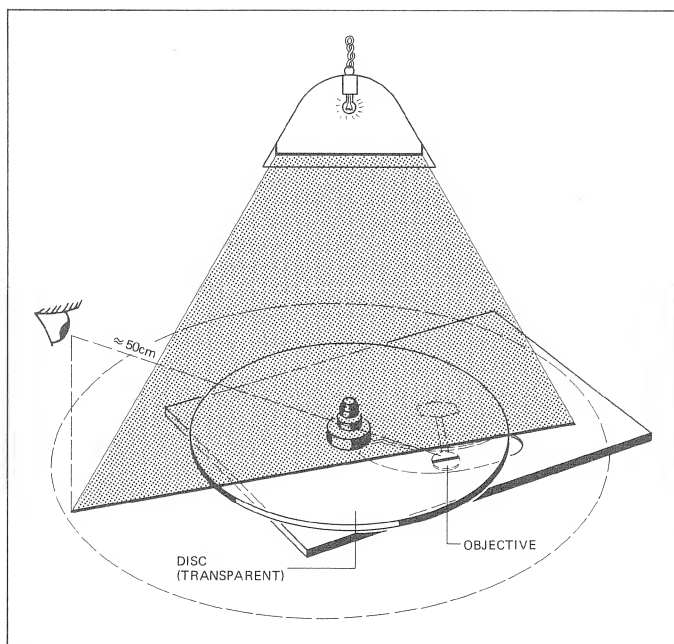

Fig. 4.21
- Set up the player mechanism in such a way that the light source forms a 90 degree angle to the pickup arm (see Fig. 4.21).